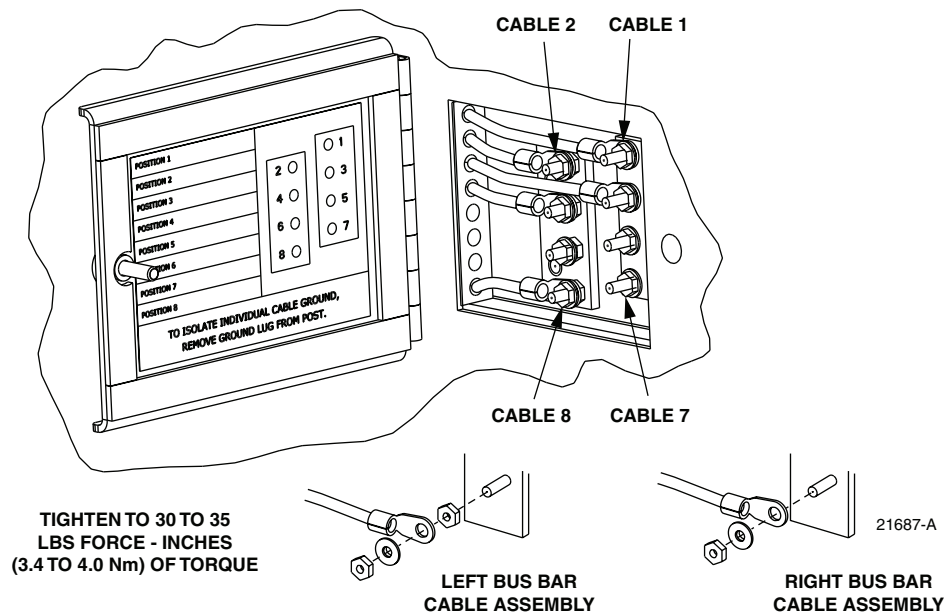

Figure 23. Cable Grounding System - Exterior view
- Open the grounding system access cover located at the rear side of the cabinet as shown in Figure 23.